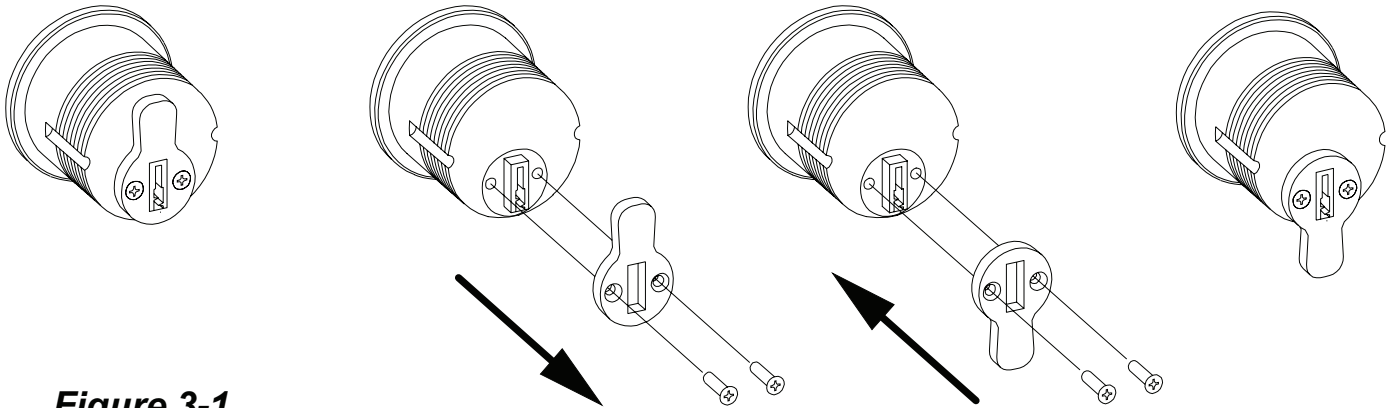

Figure 3-1
- 3.1. Remove mortise cylinder cam and replace in reverse position with key removed (Figure 3-1).